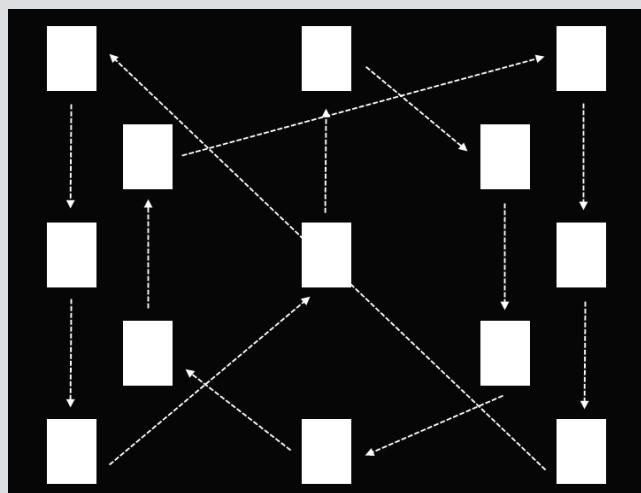

FIG 4 EBU test sequence for measuring display homogeneity.
- **Homogeneity** Another essential display parameter is the homogeneity of the displayed picture. Displays must always reproduce uniform luminance and color values at any position on the panel (FIG 4).